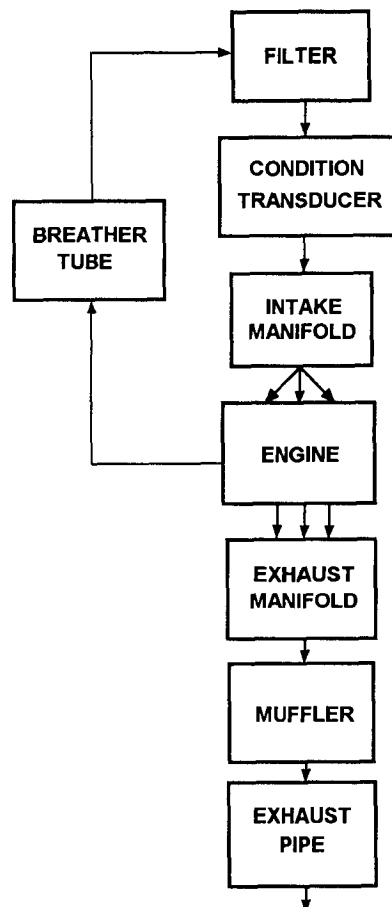

Figure 1-10. Air Intake and Exhaust System
- a. The air intake and exhaust system (Figure 1-10) consists of a filter, restriction indicator, intake manifold, breather tube, exhaust manifold, muffler, and piping. Ambient air is drawn into an air filter where it passes through the filter element. Airborne dirt is removed and trapped in the filter. The air cleaner assembly is equipped with a condition transducer. The condition transducer measures the vacuum created by the air cleaner condition indicator or when the filter needs servicing. Filtered air is drawn out of the filter through air intake tubes to the air intake manifold where it passes into the combustion chambers and is mixed with fuel from the injectors.